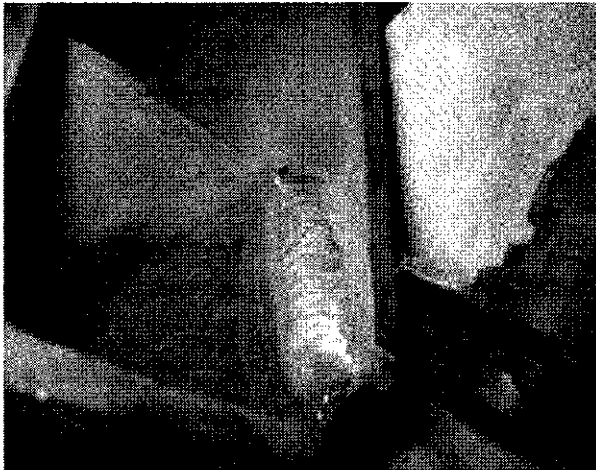

Figure 7
3. Weld rear of trailer hitch (Figures 7 and 8).